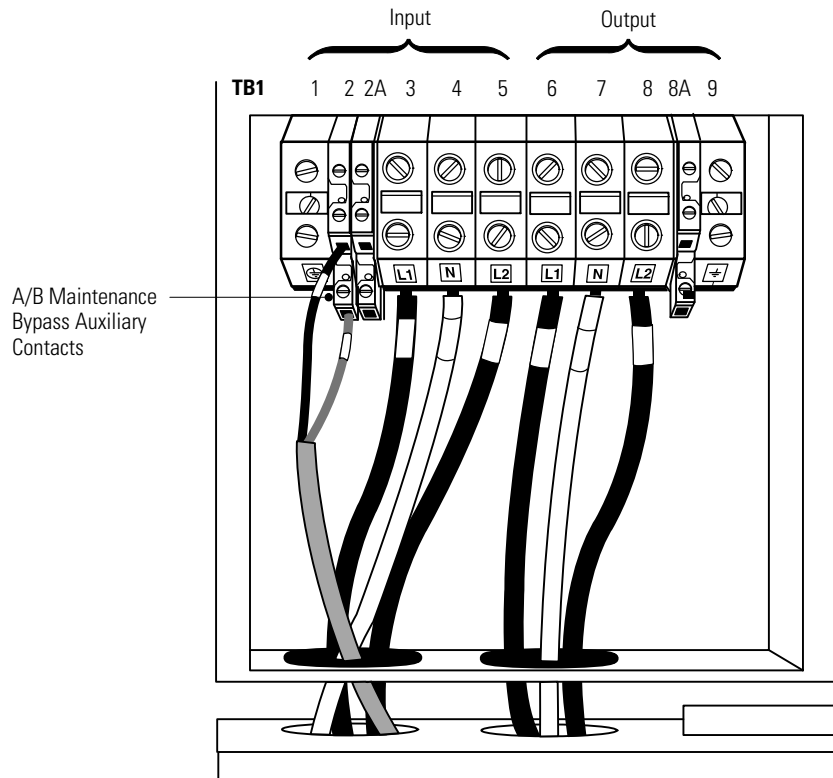

Figure 20. Wiring from Maintenance Bypass Switch to UPS
8. Connect the factory-installed wiring from the maintenance bypass switch to the UPS terminal block (see Figure 20).